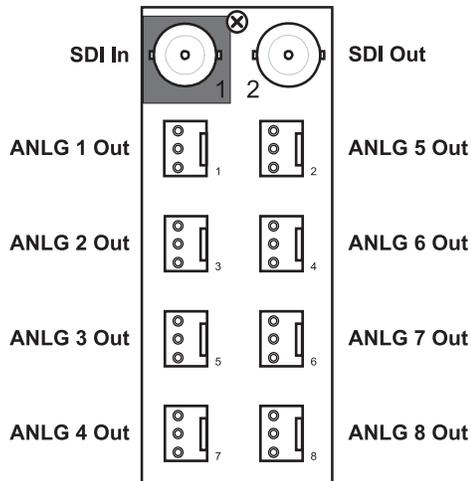

Figure 10 Cabling for the 8320AR-034
- **DFR-8310 series frames** — The **8310AR-034** rear module is required. The DMX-8259-8C is not compatible with the DFR-8310-BNC frame. This rear module provides one SDI Input, one SDI output, and eight analog outputs. (**Figure 10**)
- **DFR-8320, OG3-FR, and OGX-FR series frames** — The **8320AR-034** and **8320AR-034A** rear modules are supported. Each rear module provides one SDI Input, one SDI output, and eight analog outputs. (**Figure 10** and **Figure 11**)